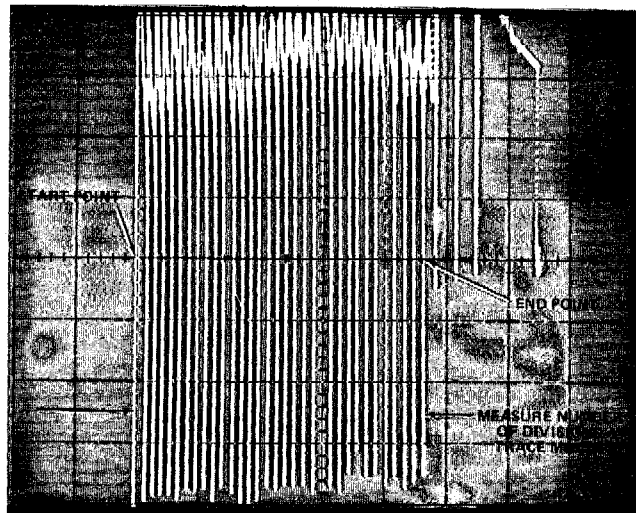

Figure 42 - Trace - Maximal Voluntary Ventilation
F.4. During this interval, the operator must encourage the patient to obtain a maximum effort. Immediately, at the end of the time period, push the Flow Amplifier **CAL** button. Doing this abruptly alters the position of the trace providing a second measurement reference point. The test is now complete and the patient may be removed from the mouthpiece. The complete trace is shown in Figure 42.